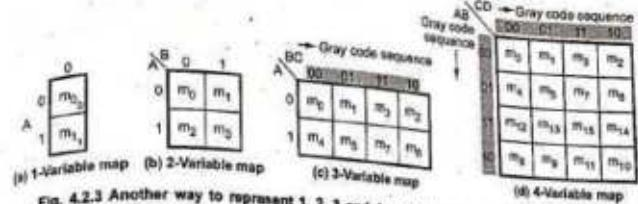

Fig. 4.2.3 Another way to represent 1, 2, 3 and 4-variable maps for SOP expressions
- The gray code has same properties (only one variable change when we proceed to next number or previous number) hence gray code is used to label the rows and columns of K-map as shown in Fig. 4.2.3.
- The Fig. 4.2.3 shows label of the rows and columns of a 1, 2, 3 and 4-variable maps using gray code and the product terms corresponding to each cell.